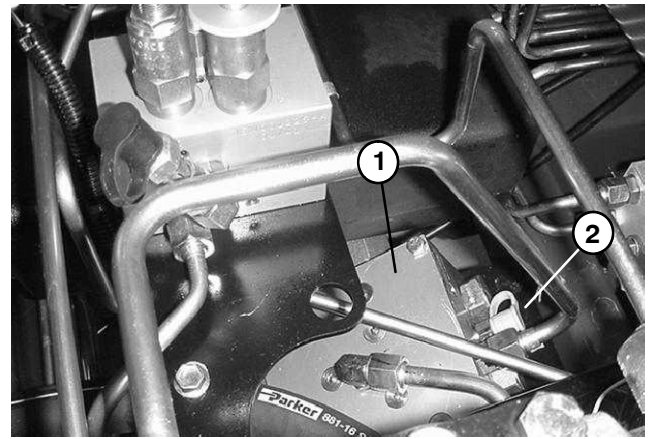

Figure 46
3. Connect a 1000 PSI gauge to test port on 2WD/4WD control manifold under operator's seat (Fig. 46).